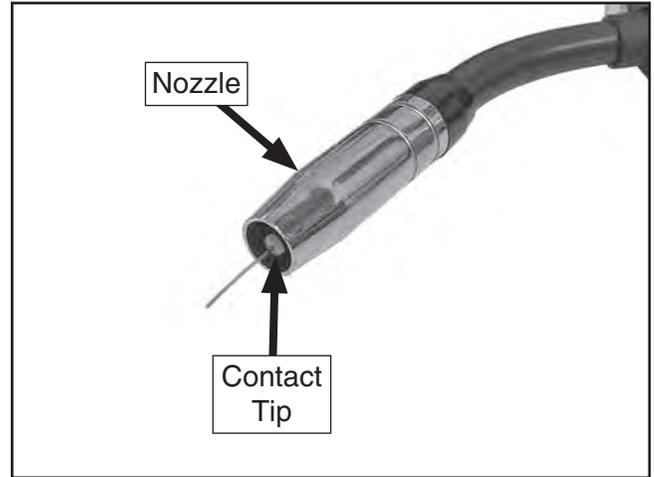

Figure 17. Welding gun components assembled.
14. Slide gun nozzle back in place (see **Figure 17**).